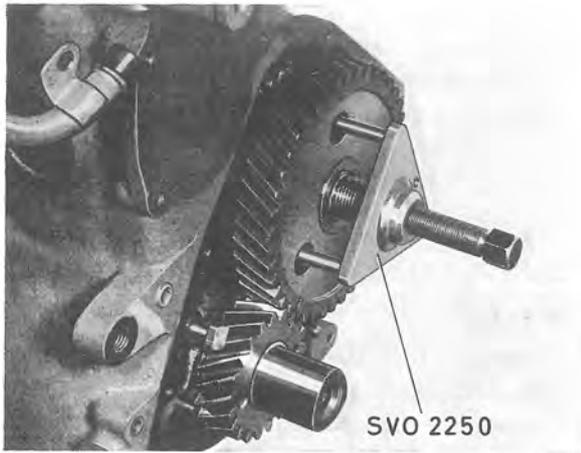

Fig. 2-34. Removing camshaft gear
4. Remove the camshaft nut and pull off the camshaft gear with puller SVO 2250, see Fig. 2-34.